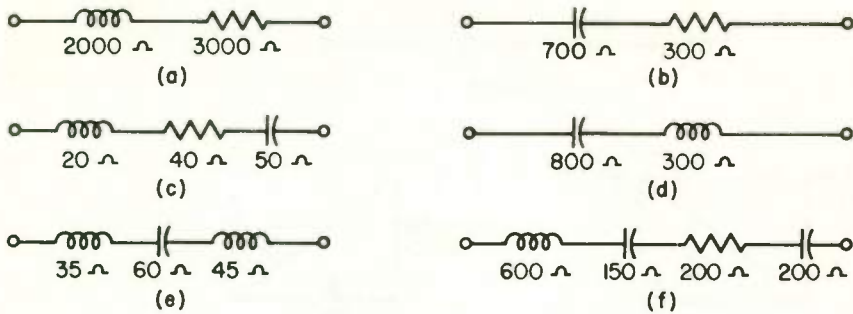

Fig. 36
1. Find the impedance of each of the circuits in Fig. 36.
3. If 100 V is applied across the circuit of Fig. 36(f), what current will flow?